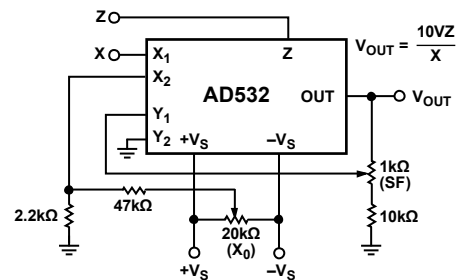

Figure 16. Divider Connection
Accuracy in the divide mode is only a little more complex. To achieve division, the multiplier cell must be connected in the feedback of the output op amp as shown in Figure 16. In this configuration, the multiplier cell varies the closed-loop gain of the op amp in an inverse relationship to the denominator voltage. Therefore, as the denominator is reduced, output offset, bandwidth, and other multiplier cell errors are adversely affected. The divide error and drift are then $\epsilon_m \times 10 \text{ V}/(X_1 - X_2)$, where ϵ_m represents multiplier full-scale error and drift and $(X_1 - X_2)$ is the absolute value of the denominator.
The AD532 can be configured as a two-quadrant divider by connecting the multiplier cell in the feedback loop of the op amp and using the Z terminal as a signal input, as shown in Figure 16. It should be noted, however, that the output error is given approximately by $10 V \epsilon_m / (X_1 - X_2)$, where ϵ_m is the total error specification for the multiply mode and bandwidth by $f_m \times (X_1 - X_2) / 10 V$, where f_m is the bandwidth of the multiplier. Further, to avoid positive feedback, the X input is restricted to negative values. Thus, for single-ended negative inputs (0 V to -10 V), connect the input to X and the offset null to X_2 ; for single-ended positive inputs (0 V to +10 V), connect the input to X_2 and the offset null to X_1 . For optimum performance, gain (SF) and offset (X_0) adjustments are recommended as shown and explained in Table 5.